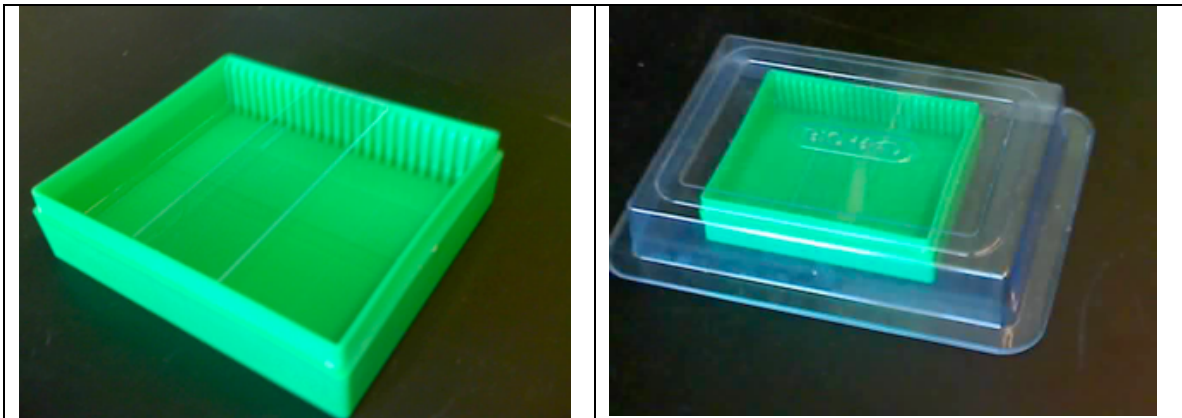

Figure 3: Humidifier chamber for slide pretreatment.
1. Create a humidifier by placing slide (DNA side down) over warm water. Cover to create a humidified compartment (see Figure 3 below).